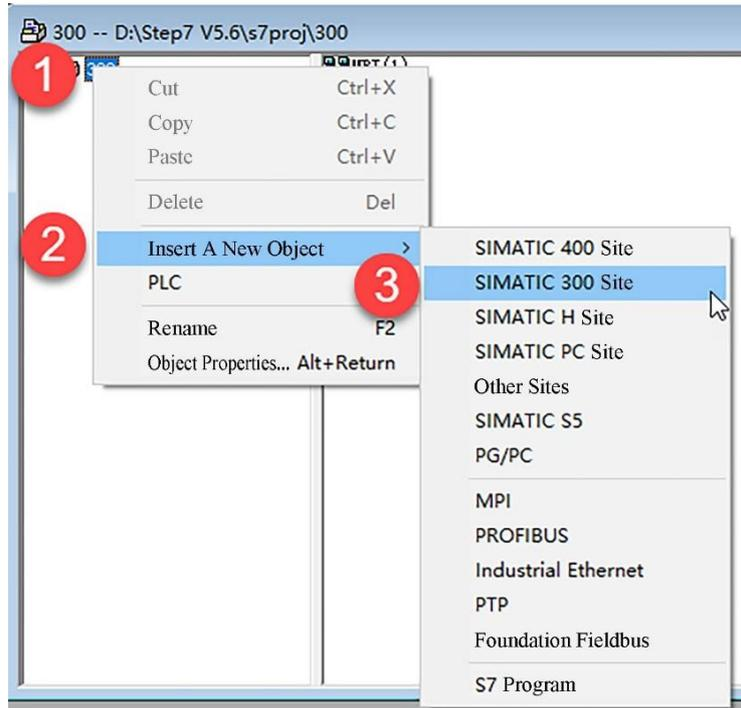
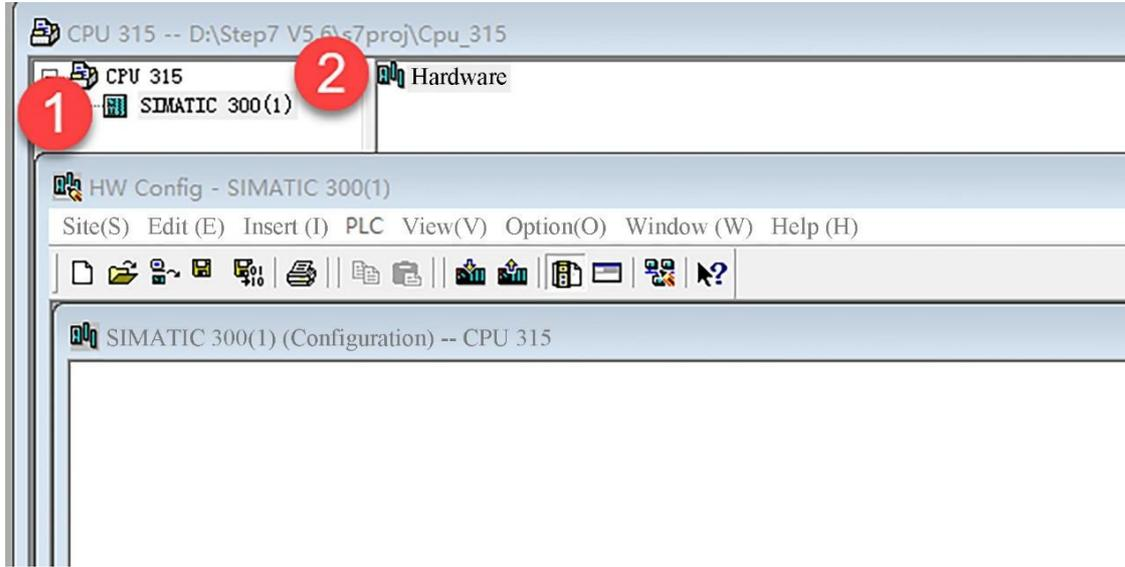
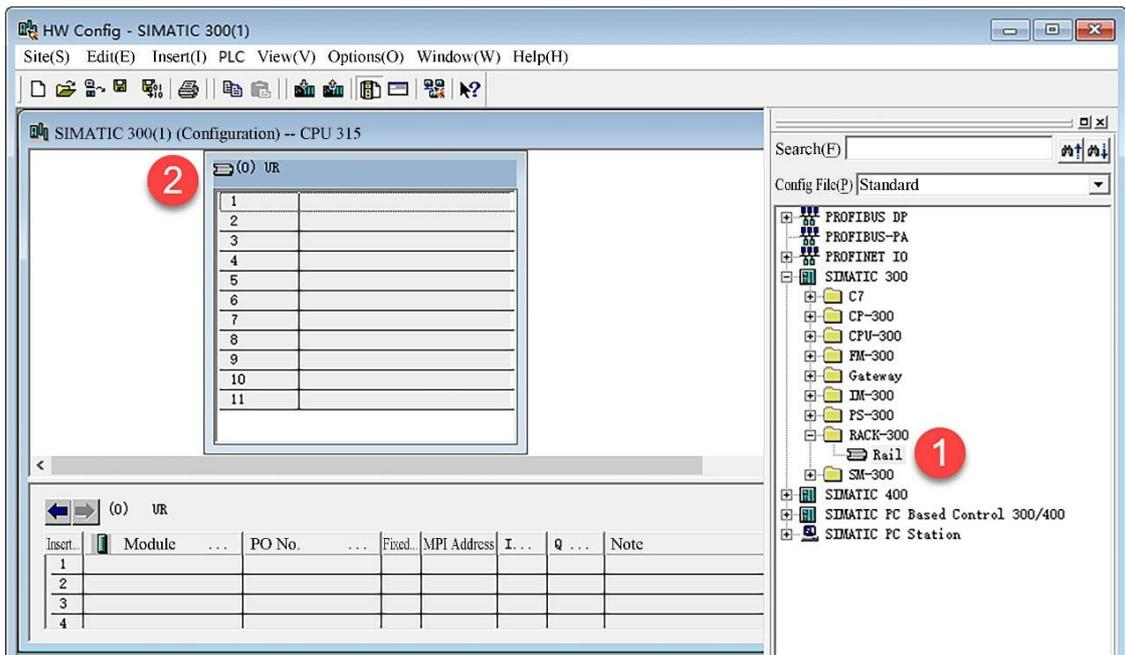

Fig.5-8-21 Add Station 300
Fig.5-8-22 HW Config Interface
Fig.5-8-23 Add Rack R1
Add station 300 to the project as shown in Fig. 5-8-21. Click the newly added station 300, select "Hardware", and enter the HW config configuration interface as shown in Fig. 5-8-22. Add RACK R1 of RACK 300 as shown in Fig. 5-8-23. Add the CPU module, select the version V2.6 of CPU315- 2 PN/DP of CPU-300 in the right window of HW config, and drag it to slot 2 of the rack with the mouse as shown in Fig. 5-8-24. In the attribute interface of the Ethernet interface, other IP addresses can be used as needed. Here, the default IP address and subnet mask are used. Select the Create button, and create a new subnet Ethernet (1). Click OK. See Fig. 5-8-25 for details.